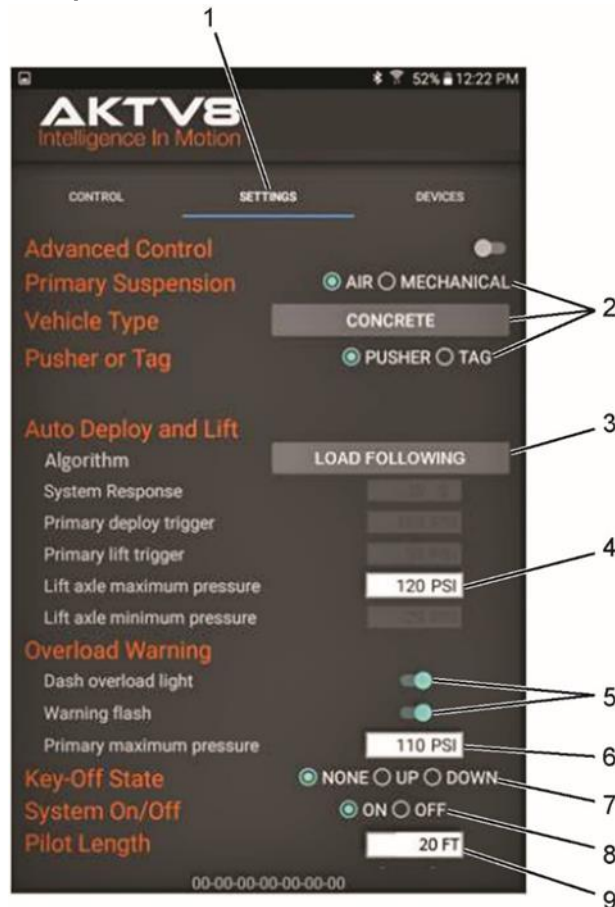

Figure 15
1. Touch or swipe to **SETTINGS** tab (Figure 15, Item 1).
2. Touch to select the features that apply to the vehicle (Figure 15, Item 2).
3. Touch **Algorithm** (Figure 15, Item 3) to select the appropriate controls. (See 4.1
4. Touch **Lift axle maximum pressure** window (Figure 15, Item 4) and set maximum pressure when fully loaded. Refer to lift axle manufacturer load/ pressure chart for estimated values on initial setting. Reference table below for example:
5. Touch to toggle on/off **warning light** functions (Figure 15, Item 5) as desired. This feature only works if the optional LED light and harness is installed.
6. Touch **Primary maximum pressure** window (Figure 15, Item 6) and set maximum legal load pressure. Refer to axle manufacturer PSI/ load scale for estimated values on initial setting. Reference table below for example:
7. **Key-Off State** (Figure 15, Item 7) is not available, please set to "NONE". When vehicle is turned off the lift axle will go to the up position.
8. Select desired **System On/Off** (Figure 15, Item 8).
9. Touch **Pilot Length** window (Figure 15, Item 9) and set estimated pilot line length.